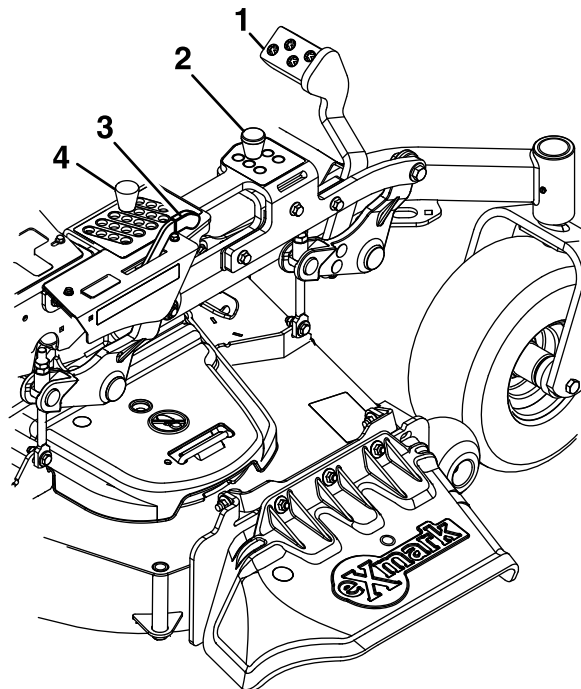

Figure 27
4. Raise and lock the deck to the 5 1/2 inch (14 cm) transport position (see Figure 27).